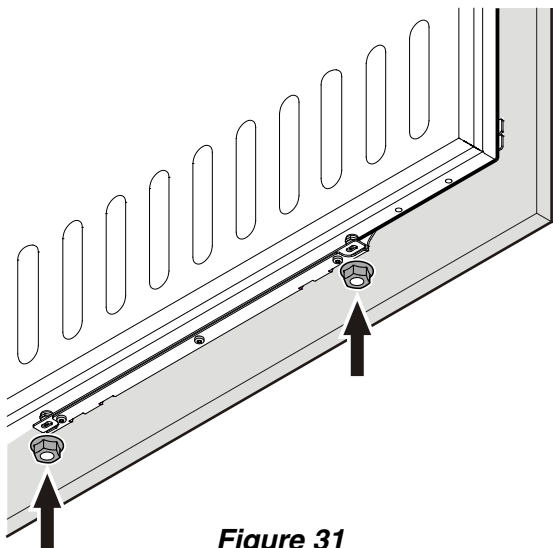

Figure 31
9. Screw on the hex nuts and tighten (**Figure 31**).